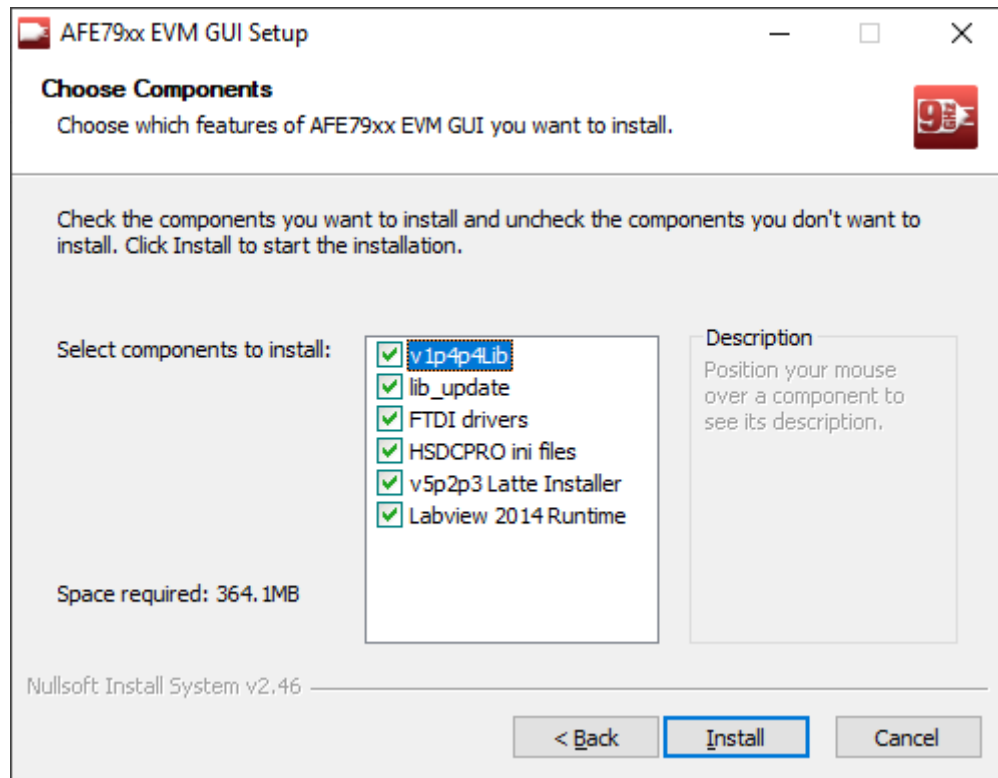

Figure 1-3. Latte Installer Options
2. Install *AFE79xxEVM_GUIv1p4p4p1.exe*. Follow all the instructions within the installer execution process. As shown in Figure 1-3, the installer will install the following: